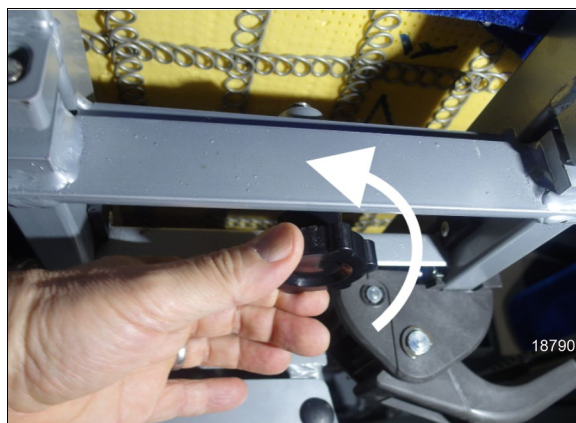

FIGURE 27: LOOSEN THE KNOB
1. Loosen completely the threaded-stud knob under the seat on the aisle side (Figure 27).